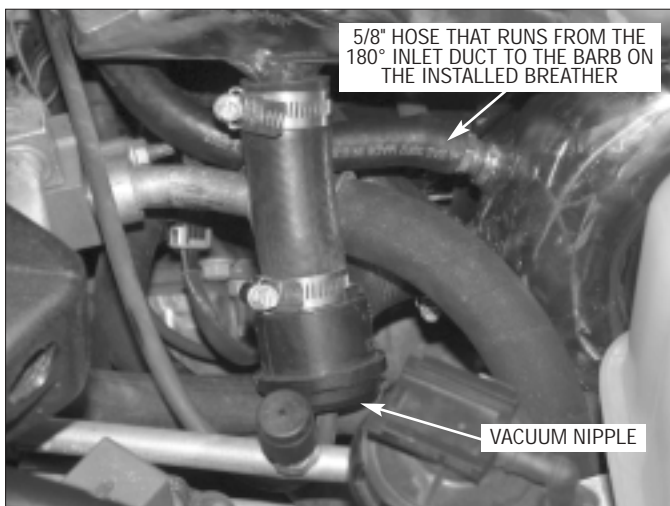

Fig. 14-a
- B. Connect the remaining end of the bypass valve to the barb on the inlet duct with the supplied Ø1" x 90° molded hose. Make sure the vacuum nipple is pointing away from the barb on the Charge Air Cooler. (See *Fig. 14-a.*)
- E. Run a 5/8" hose from the previously installed breather assembly to the 5/8" barb installed into the 180° cast inlet duct. (See *Fig. 3-c* on page 3-1 and *Fig. 14-a.*)